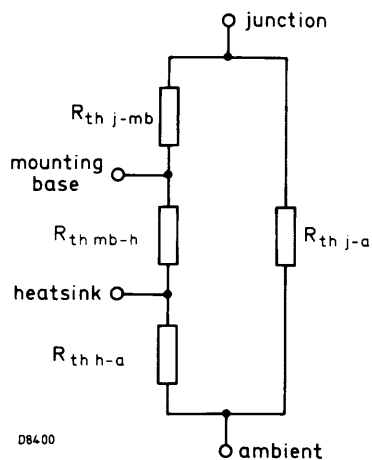

Fig.4
- The various components of junction temperature rise above ambient are illustrated in Fig.4.